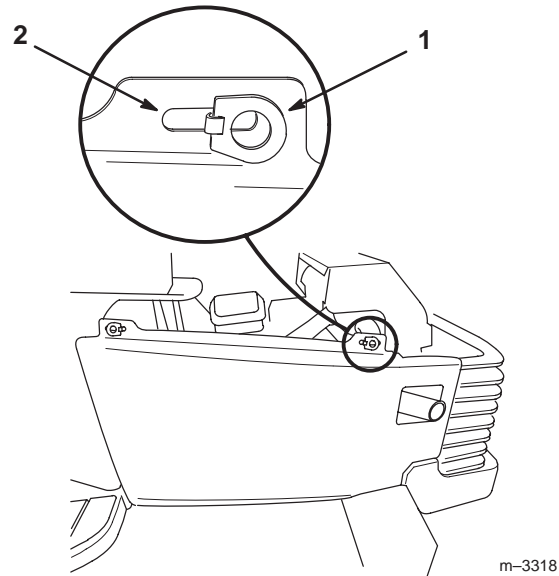

Figure 3
3. Lift up and twist each of the two side panel latches 90°, or until they line up with the open slot (Fig. 3).